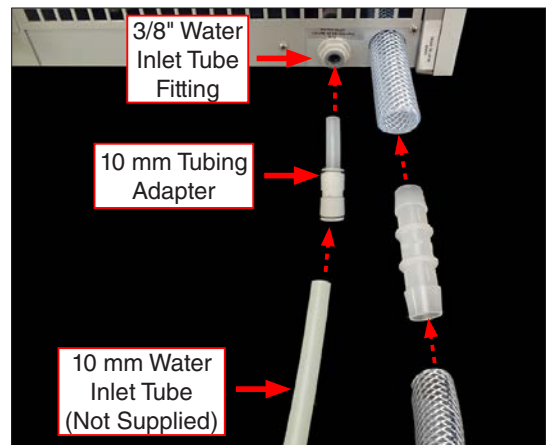

Figure 6.3d: Connect to 10 mm water inlet supply tubing.
- A 10 mm water fitting adapter (U-40817-X) for connecting the tester to a 10 mm inlet water supply is also supplied (Figure 6.3d).